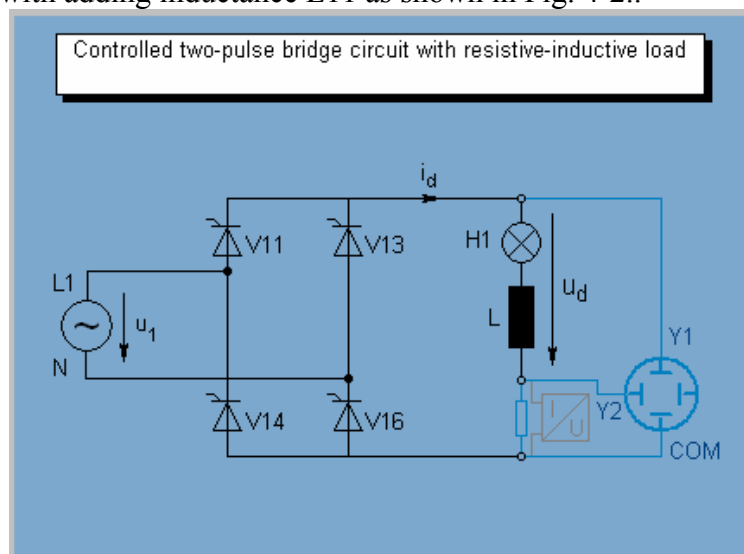

Figure 4-2 Single-phase controlled bridge rectifier with inductive load
3. Repeat 2 with adding inductance L11 as shown in Fig. 4-2..